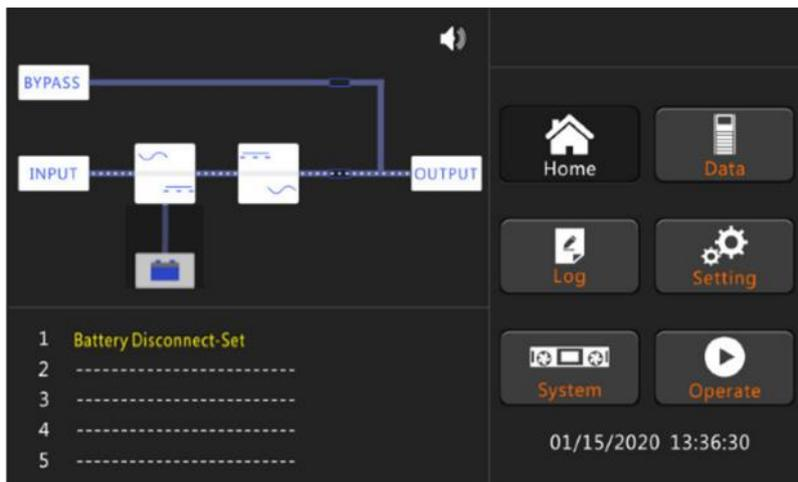

Figure 4-4 Normal mode
6) After about 30S, when the inverter is running normally, the UPS switches from the bypass to the inverter, the bypass indicator bar is off, and the load indicator bar flashes. As shown in Figure 4-4.